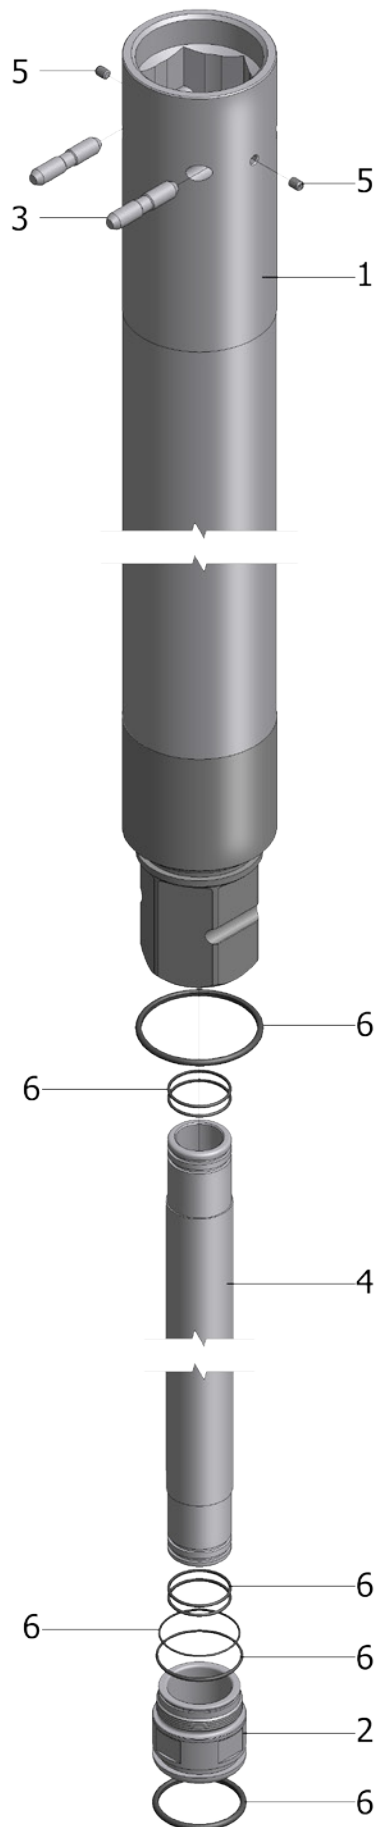

FIG. 3.8
D.114 HEX 80 JET ROD: J-EJET1000 (L=1000); J-EJET2000 (L=2000); J-EJET3000 (L=3000) (REF. FIG. 3.8)